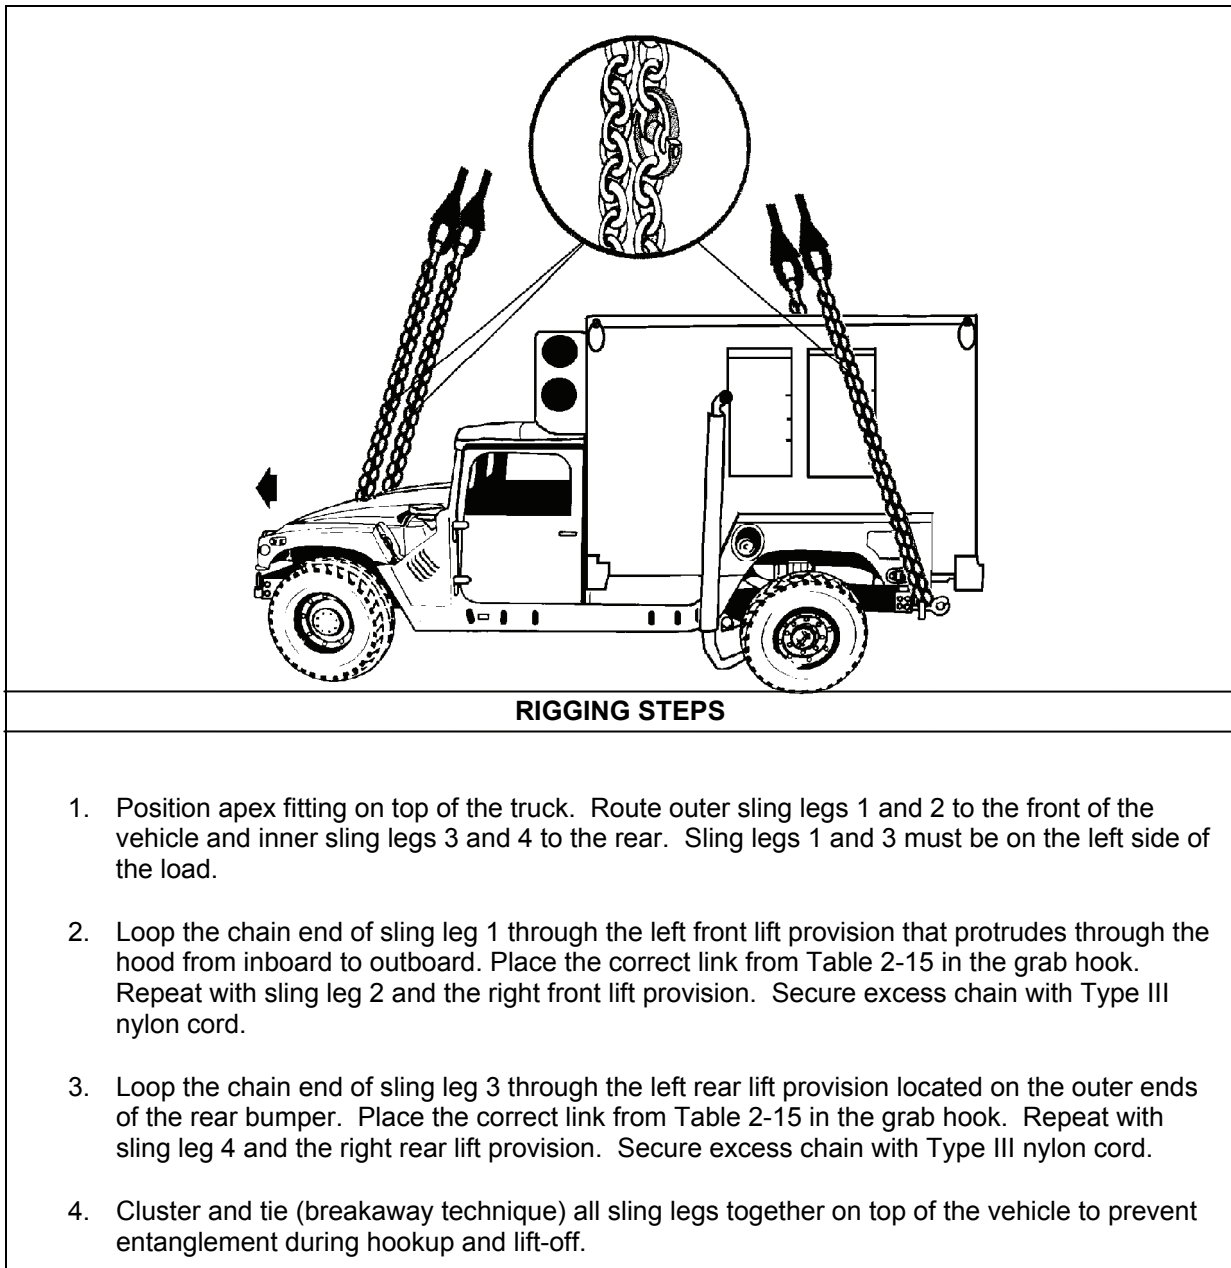

Figure 2-14. Tactical Data Network Gateway on M1097A1 HMMWV
- **Rigging.** Rig the load according to the steps in Figure 2-14.